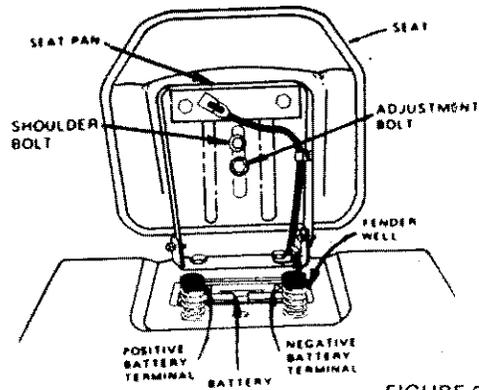

FIGURE 2
- Place seat on seat pan. Screw hex head machine screw, lockwasher and flat washer into seat (Fig. 2). Screw shoulder bolt into seat (Fig. 2). Machine screw, shoulder bolt and washers found in bag of parts (shown full size on page 6).
- Lift seat (Fig. 2).